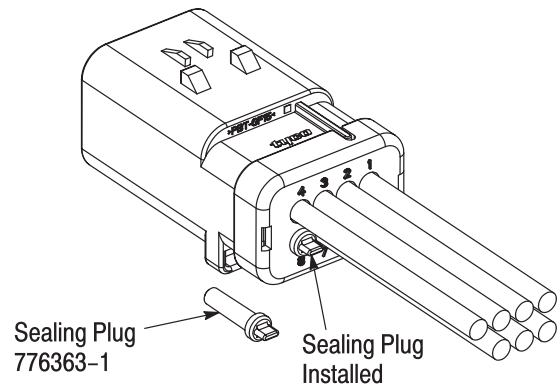

Figure 6
5. Place a sealing plug (part number 776363-1) into any unused circuits. The sealing plug should be pushed into the wire entry end of the plug or cap assembly until the sealing plug flange is firmly against the seal cover. See Figure 6.